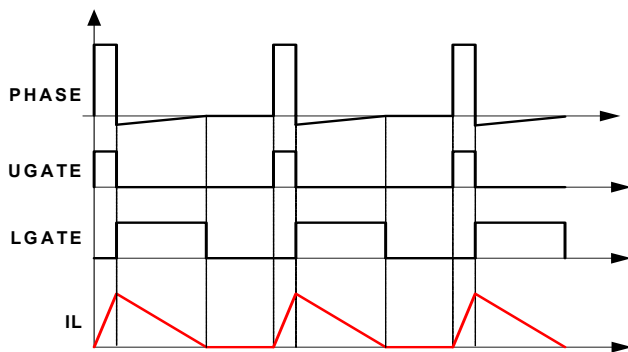

FIGURE 9. DIODE EMULATION
The ISL6377 can operate in diode emulation (DE) mode to improve light-load efficiency. In DE mode, the low-side MOSFET conducts when the current is flowing from source to drain and does not allow reverse current, thus emulating a diode. As Figure 9 shows, when LGATE is on, the low-side MOSFET carries current, creating negative voltage on the phase node due to the voltage drop across the on-resistance. The ISL6377 monitors the current by monitoring the phase node voltage. It turns off LGATE when the phase node voltage reaches zero to prevent the inductor current from reversing the direction and creating unnecessary power loss.
If the load current is light enough, as Figure 9 shows, the inductor current reaches and stays at zero before the next phase node pulse, and the regulator is in discontinuous conduction mode (DCM). If the load current is heavy enough, the inductor current will never reach 0A, and the regulator is in CCM, although the controller is in DE mode.